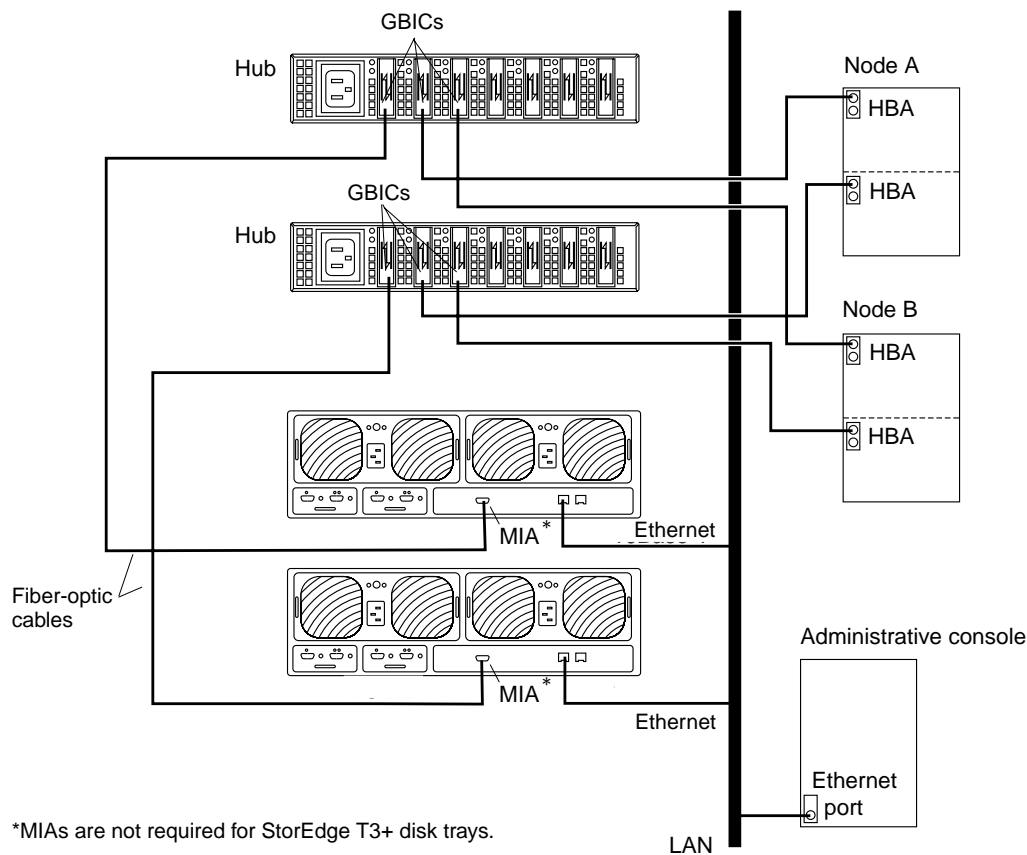

FIGURE C-1 Cabling StorEdge T3/T3+ Disk Trays in a Single-Controller Configuration
Install the media interface adapters (MIAs) in the StorEdge T3 disk trays you are installing, as shown in FIGURE C-1.**
5. If necessary, install gigabit interface converters (GBICs) in the Sun StorEdge FC-100 hubs, as shown in FIGURE C-1.
6. **Install fiber-optic cables between the Sun StorEdge FC-100 hubs and the StorEdge T3/T3+ disk trays as shown in FIGURE C-1.**
7. **Install fiber-optic cables between the Sun StorEdge FC-100 hubs and the cluster nodes as shown in FIGURE C-1.**
8. **Install the Ethernet cables between the StorEdge T3/T3+ disk trays and the Local Area Network (LAN), as shown in FIGURE C-1.**
Note – Although FIGURE C-1 shows a single-controller configuration, two disk trays are shown to illustrate how two non-interconnected disk trays are typically cabled in a cluster to allow data sharing and host-based mirroring.